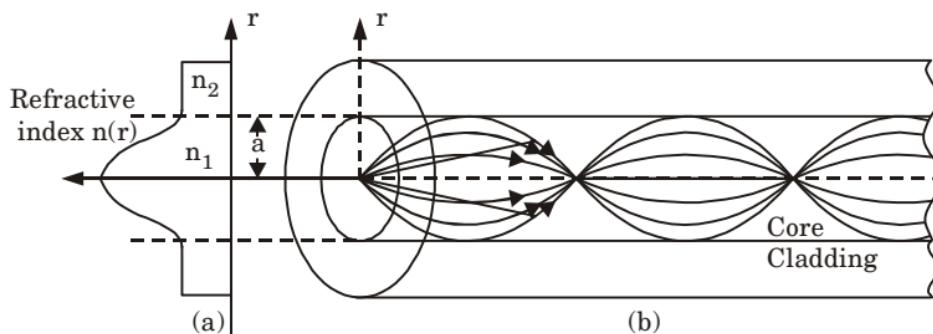

Fig. 7. The refractive index profile and ray transmission in a multimode graded index fiber.
- A multimode graded index fiber with a parabolic index profile core is shown in Fig. 7. It is observed that meridional rays appear to follow a curved path through the fiber core.